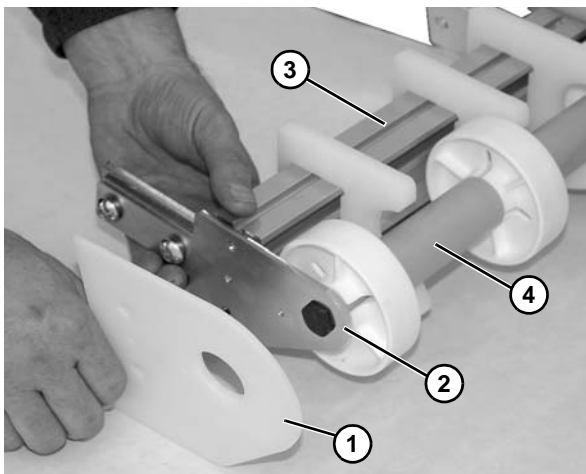

Figure 84
6. Remove filler plate (**Figure 84, item 1**) and idler backing plate (**Figure 84, item 2**) from crossmember (**Figure 84, item 3**) and roller assembly (**Figure 84, item 4**).